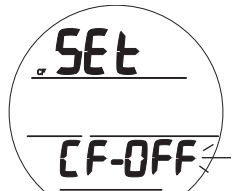

Fig. 58 - SET CF
Set Conservative Factor (CF), information includes (Fig. 58):